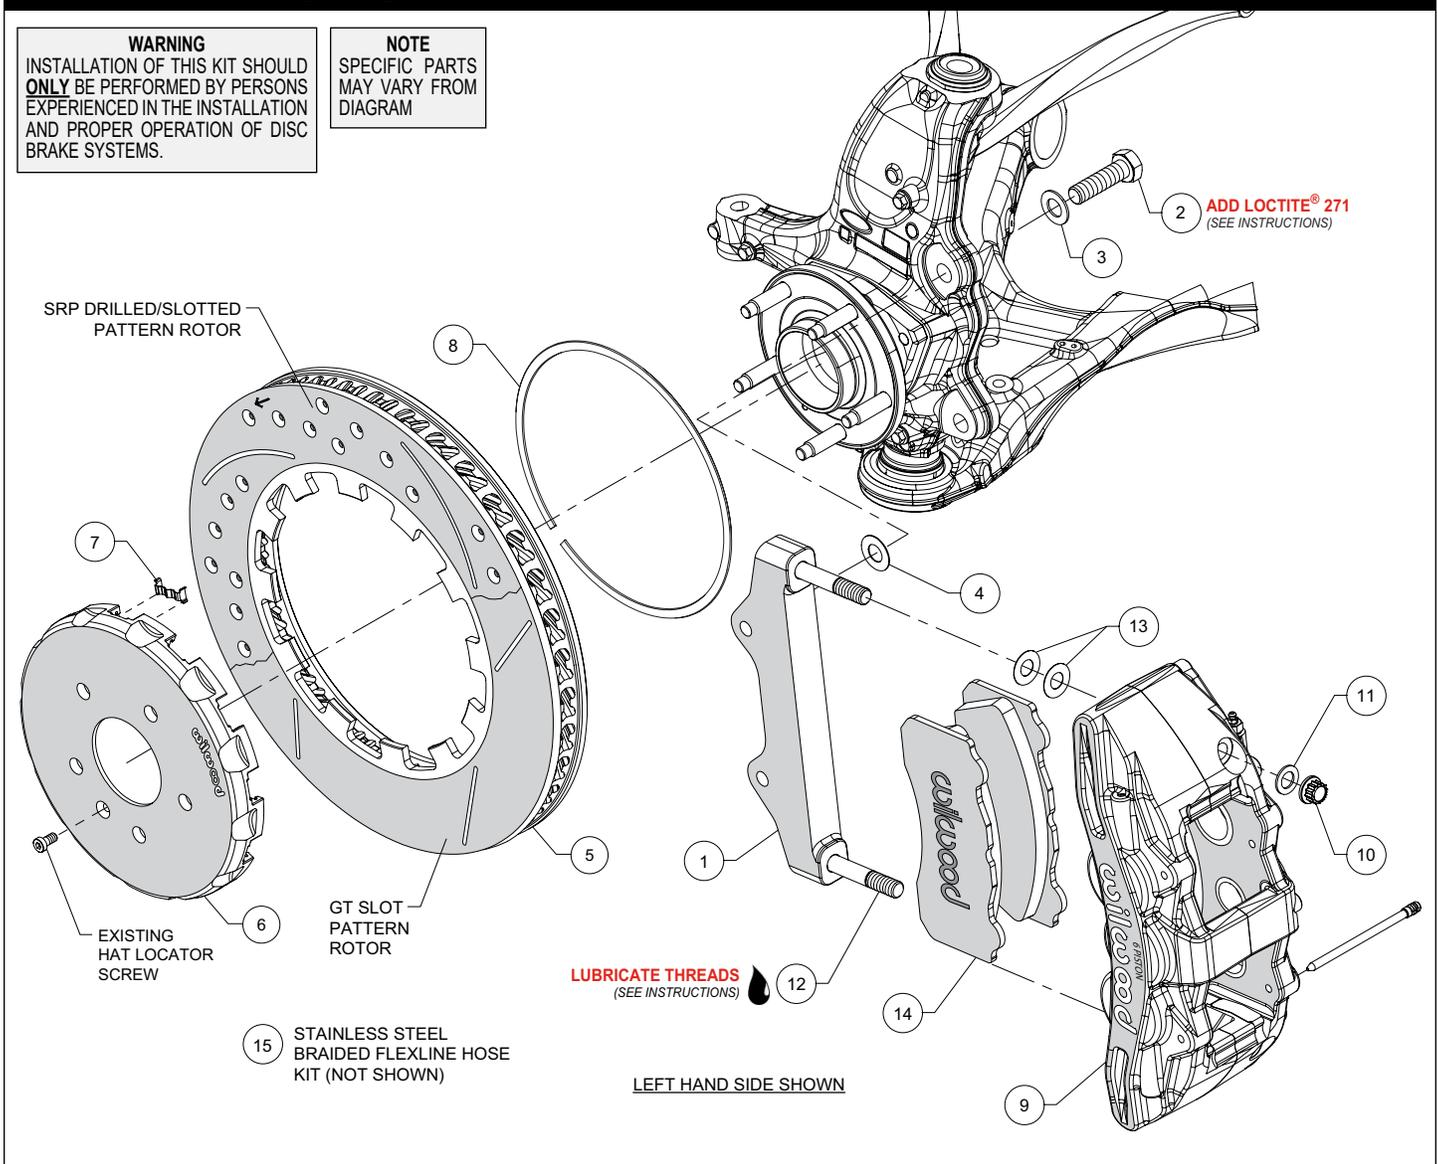

Figure 1. Typical Installation Configuration
**NOTE:** Numbers in parenthesis refer to the parts list and Figure 1 on the preceding pages.
- The caliper mount bracket (1) should initially be installed with clean, dry threads on the mounting bolts. Orient the bracket, as shown in Figure 1 and Photo 1, and install using bolts (2) and washers (3). Initially place one .029" thick shim (4) on each bolt
between the bracket and upright, Figure 1. Temporarily tighten the mounting bolts. **NOTE:** The bracket must fit squarely against the mount bosses on the upright. Inspect for interference from casting irregularities, machining ridges, burrs, etc. Later, after the caliper alignment has been checked, the mount bolts will be secured using red *Loctite*® 271.
- Insert the dynamic mount wear clips (7) into the slots in the hat (6), Photo 2. Orient the rotor (5) as shown in Figure 1 and Photo 3, with the flush side of mount lugs facing the hat. Secure the rotor to the hat using the snap ring (8) by simultaneously pushing down on the rotor and installing the ring into the groove in the hat, as shown in Photo 4. Carefully inspect snap ring to ensure complete engagement in the groove.
- Slide the hat/rotor assembly onto the axle hub, Photo 5. **NOTE:** The hat must fit flush against the axle hub flange or excessive rotor run out may result. Install the hat locator screw (OEM), as shown in Figure 1, to keep the hat/rotor assembly in place while continuing with the installation.
- NOTE:** This kit contains distinct right and left hand calipers that must be mounted in a specific direction, as described below. Lubricate the caliper mounting studs (12) with lightweight oil. Initially place two .015" thick shims (13) on each stud between the caliper and the bracket, as shown in Figure 1 and Photo 6. Mount the caliper (9) onto the bracket (1) using lock nuts (10) and washers (11), Figure 1. Temporarily tighten the lock nuts. Ensure that the caliper is mounted so the largest pistons are at the rotor exit end of the caliper, in relation to the forward direction of the rotor. View the rotor through the top opening of the caliper.
- Remove the two pad retaining pins from the caliper (9) by pushing out the pins from the tapered end using a blunt instrument. Insert the brake pads (14) into the caliper from the bottom, Figure 1 and Photo 8. With the friction material facing the rotor, secure the